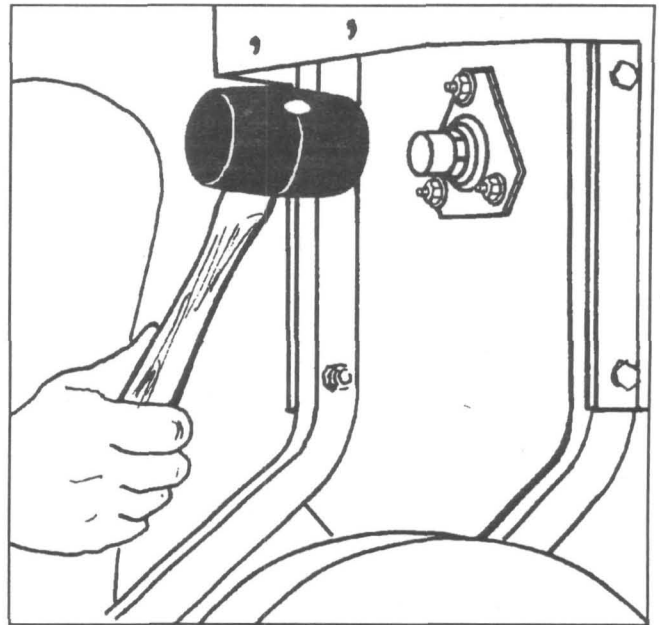

Fig. 12
E. Continue driving the shaft inward until the keyway end of the shaft is flush with the slotted bearing sleeve on the engine side of the main frame (see Fig. 12). Now spray additional penetrating oil into the two screw holes mentioned in Step C above.